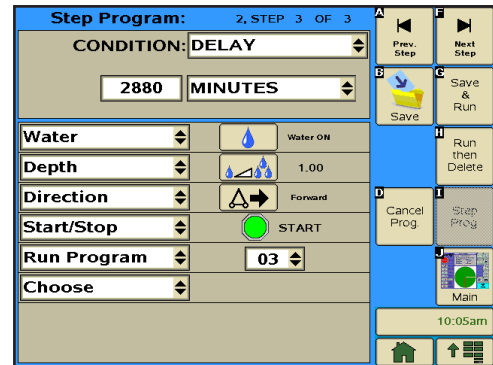

Figure 166-1
23. Program the delay time condition for this step. Refer to Figure 166-1.